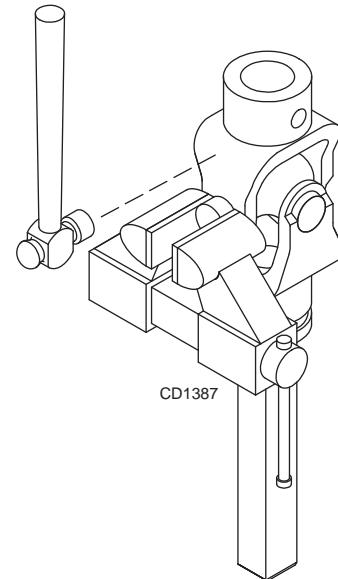

Figure 29
- Clamp cup in vise as shown in Figure 29 and tap on yoke to completely remove cup from yoke. Repeat Step 2 & Step 3 for opposite cup.